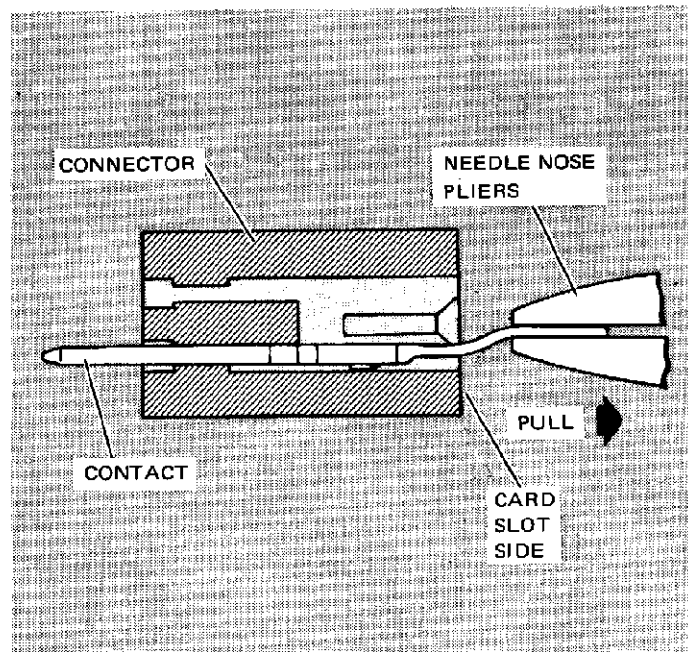

Figure 3
- Push handle to disengage contact. Pull contact from card slot side of connector. See Figure 3.